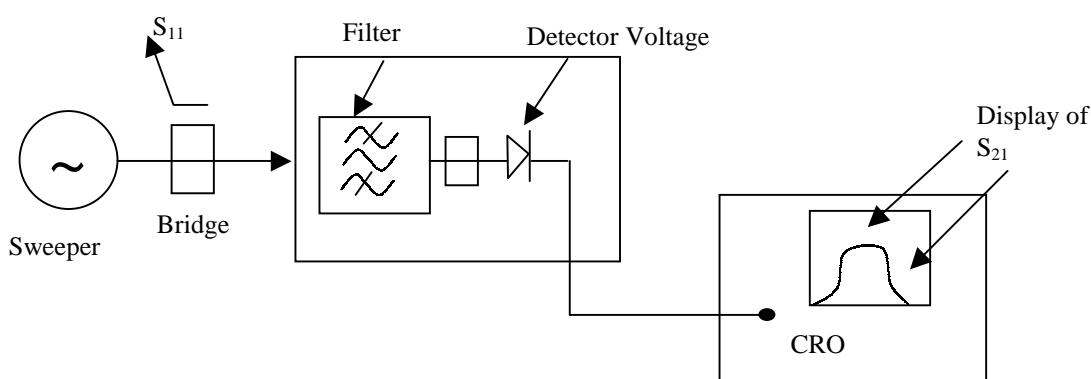

Figure 2: Test Set Up
- The ‘reflection test set’ is connected to the SMA connector on the filter in. (See Figure 2)